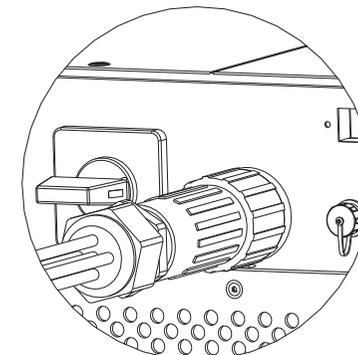

Fig 5.17
4) Connect it to the inverter. Fig. 5.17.